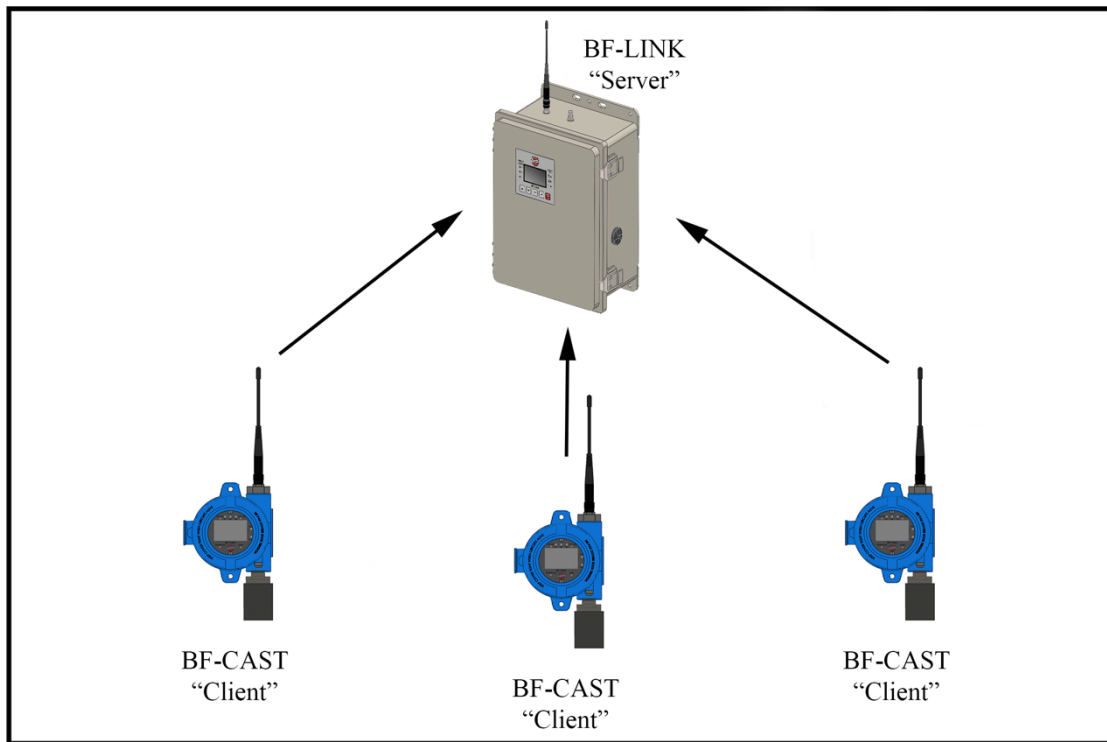

Figure 2-1 Standard BDS-NET System
- Figure 2-1: BF-CAST transmitters reporting to a BF-LINK controller configured as a “Server”.